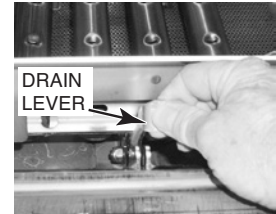

Fig. 32
4. Open drain(s) by pulling drain lever(s) up (Fig. 32).